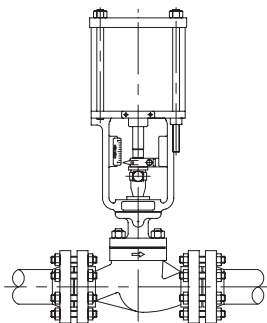

Fig. 1 – Installation of valve
4.6. During the installation the actuator must be positioned on the valve and in vertical position (Figure 1). If possible, look for a position closer the vertical one. The horizontal position should be avoided and, in some cases, there should be a support to the actuator.